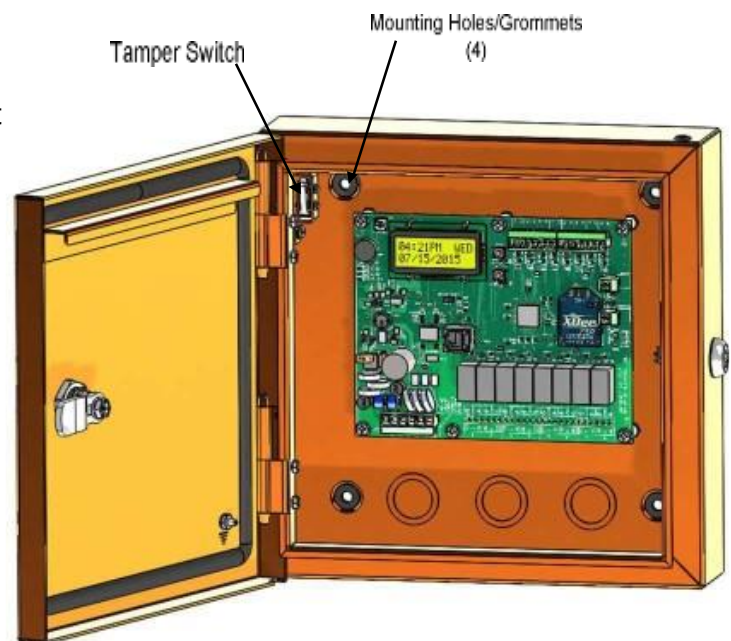

Figure 2
**Mount the back plate** to the desired keypad location using the 4 holes in the back panel that carry grommets. (Figure 2)